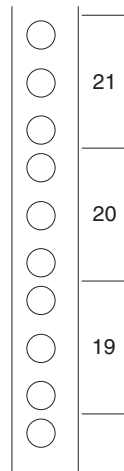

Figure 6. Measuring U levels within the rack cabinet
All vertical rack cabinet measurements are given in rack units (U), where 1U is equal to 4.45 cm (1.75 in.). The U levels are marked on labels on the front and rear mounting flanges inside of the rack cabinet, as shown in Figure 6.